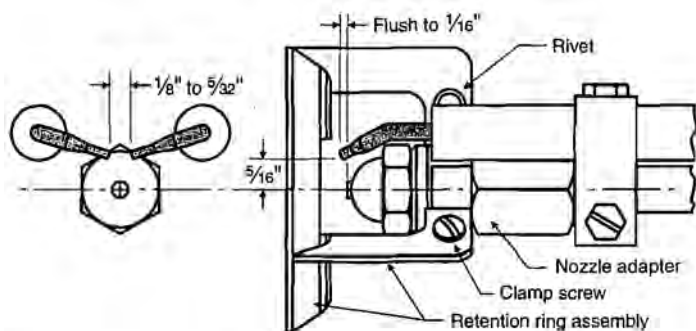

Figure 25A: Electrode Settings (Carlin EZ-HP)
- CL Series boilers are equipped with Carlin EZ-HP burners. Items to be checked are nozzle size, head bar size, gun setting, and positioning of electrodes. This information is shown in Figure 25A and Table 9 at rear of manual.